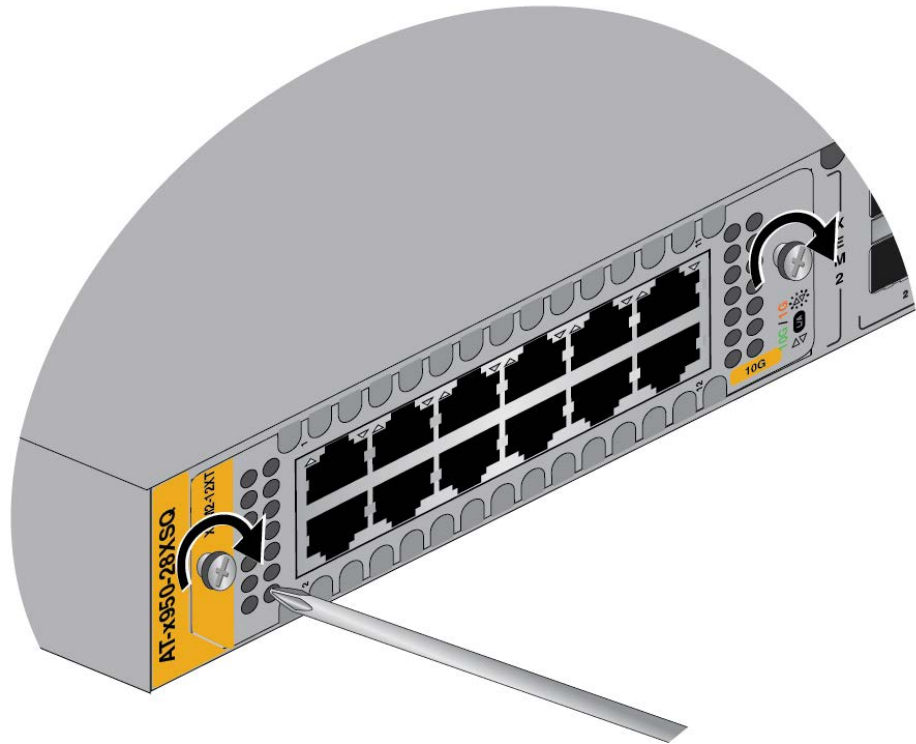

Figure 80. Tightening the Two Captive Screws on the Ethernet Line Card
6. Tighten the two captive screws on the card to secure it in the switch. Refer to Figure 80 on page 142.